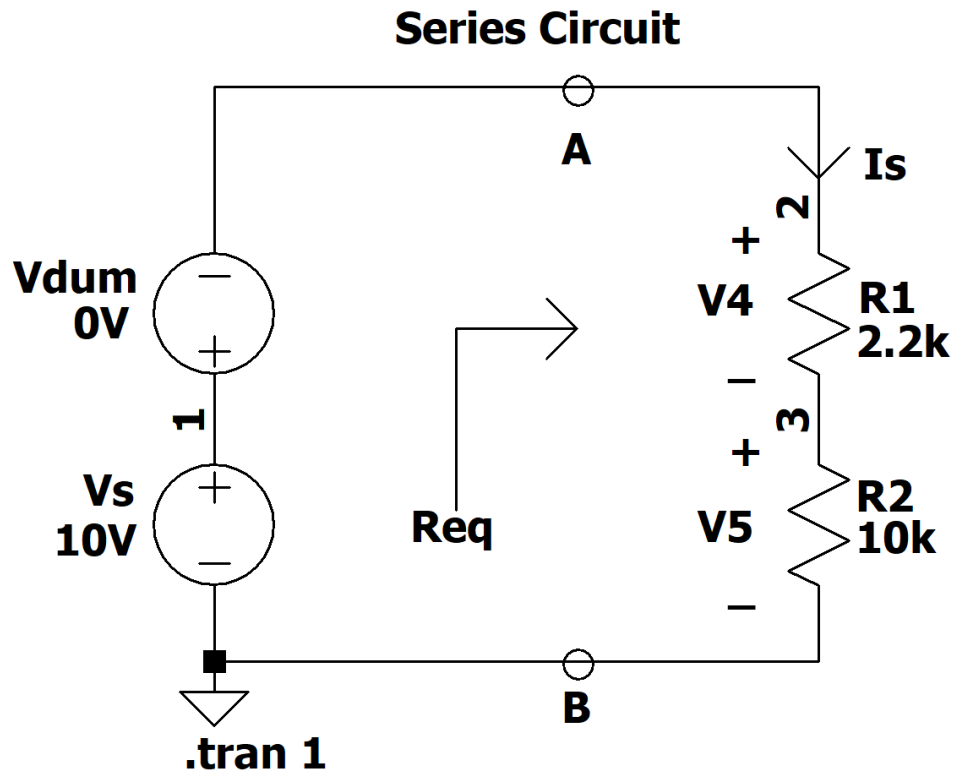

Figure 1. Series circuit
1. Consider the circuit of Figure 1. Note that the voltage source V_{dum} has no effect on the circuit; it is used to measure $I_s = I(V_{dum})$ in LTspice®.
2. Simulate the circuit of Figure 1 in LTspice® using a transient analysis. The terminals ‘A’ and ‘B’ were drawn using Draw->Circle and the Req arrow was created using Draw->Line. ‘Req’ is text. Nodes ‘1’, ‘2’, and ‘3’ were labelled using the node tool. Use the ‘simulation’ column of Table 1 to report your results.
3. Compute and record the equivalent resistance Req ‘seen’ by the source in Figure 1. Use Req to verify the value of I_s .
2. Construct the circuit of Figure 1. Your circuit will look something like Figure 3.
Figure 3. Circuit of Figure 1 constructed using a breadboard. Voltage V_4 is being measured. The orange jumper wire will be replaced with an ammeter to measure I_s in Figure 4. *Your resistor values are different and you are using a power supply instead of a battery.*